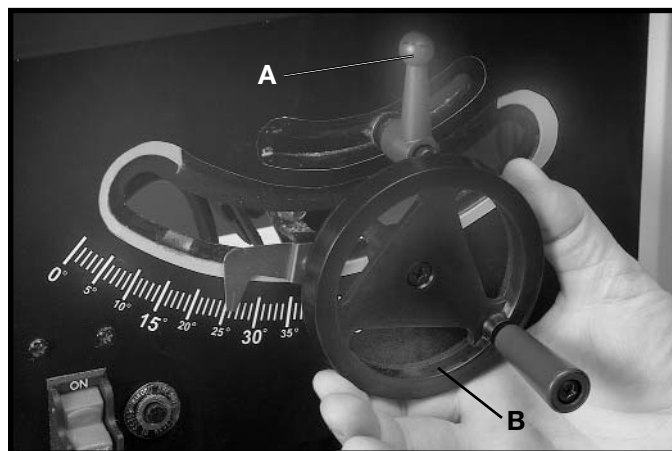
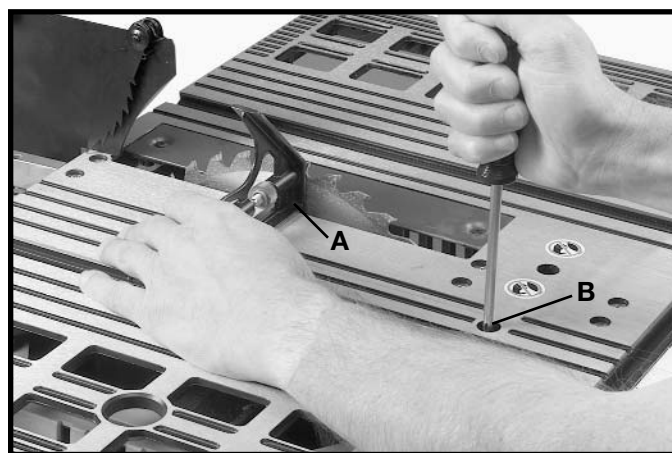
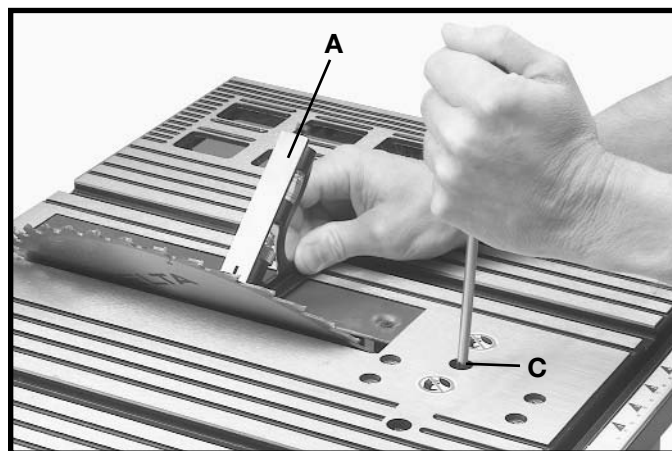

Fig. 34
Fig. 35
Fig. 36
To tilt the saw blade, loosen lock handle (A) Fig. 34, move handwheel (B) until the blade is at the desired angle and tighten lock handle (A). **NOTE:** The lock handle (A) is spring-loaded and can be repositioned by pulling out on the handle (A) and repositioning it on the serrated stud located underneath the handle.
3. Loosen the blade tilting lock handle (A) Fig. 34, move the blade tilting mechanism (B) as far as possible to the left and tighten the blade tilting lock handle (A).
4. Place a square (A) Fig. 35, on the table with one end of the square against the blade as shown, and check to see if the blade is at 90 degrees to the table. If it is not, loosen screw (B) Fig. 35, a few turns and move the blade tilting mechanism until the blade is at 90 degrees to the table. Then tighten blade tilting lock handle (A) Fig. 34, and tighten screw (B) Fig. 35, until it stops.
5. Loosen the blade tilting lock handle (A) Fig. 34, move the blade tilting mechanism (B), as far as possible to the right, and tighten the blade tilting lock handle (A).
6. Place a square (A) Fig. 36, on the table with one end of the square against the blade as shown, and check to see if the blade is at 45 degrees to the table. If it is not, loosen screw (C) Fig. 36, a few turns and move the blade tilting mechanism (B) Fig. 34, until the blade is at 45 degrees to the table. Then tighten blade tilting lock handle (A) Fig. 34, and tighten screw (C) Fig. 36, until it stops.